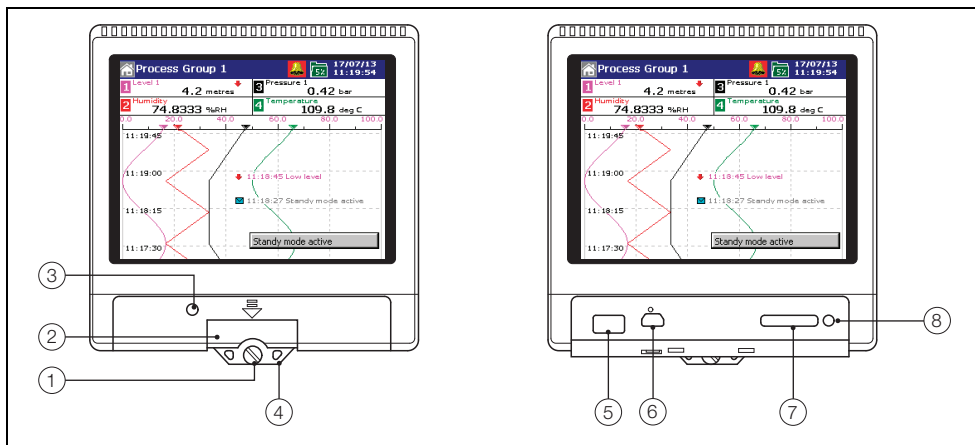

Fig. 4.1 Front panel features
Key to Fig. 4.1:
- Do not remove media when the archiving active indicator light is lit – see Fig. 4.1, page 24.